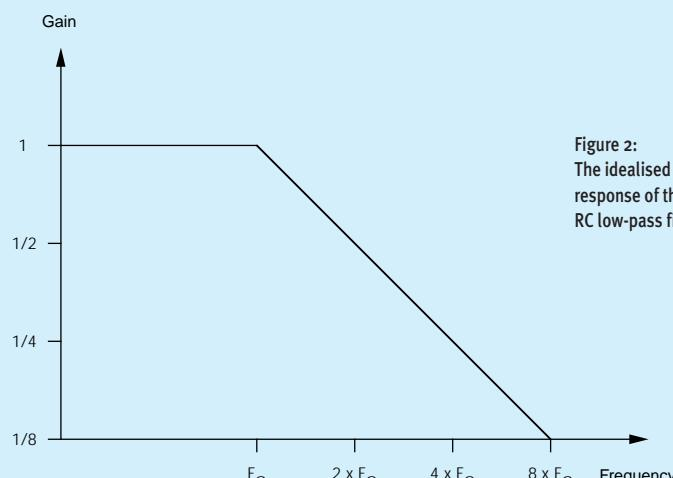
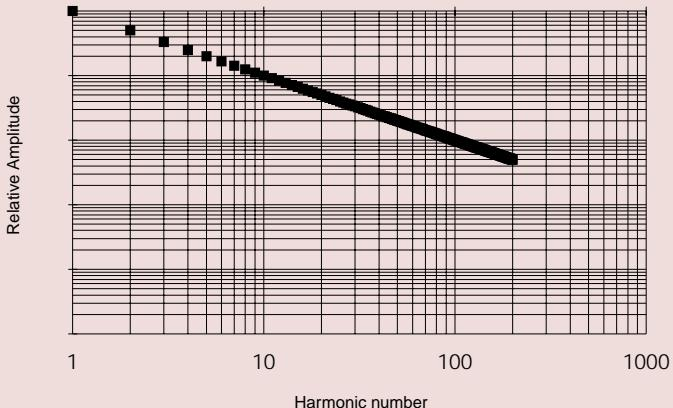

Figure 2:
Figure 5:
the cutoff frequency (which I will call F_c), the gain at the output is halved (see Figure 2, left).
Unfortunately (and despite its ubiquitous use within the music industry) Figure 2 is actually *wrong*. Figure 3 shows a more accurate representation of the transfer function. As you can see, the signal amplitude is already down by 3dB at the cutoff frequency. This is not a fault. In fact, in electrical engineering, the position of this 3dB cut *defines* the cutoff frequency. So, let's state this month's first Synth Secret:
Now, let's back-track a little and consider what a simple low-pass filter does to a common waveform. To simplify matters, we'll use the idealised low-pass filter response seen in Figure 2, because its sharp 'knee' makes it easier to recognise what's happening. Figure 4 shows the harmonic structure of the most common analogue synthesizer waveform of all: the sawtooth. All the harmonics are present in this signal, and their
► amplitudes relative to the fundamental are defined by the simple relationship $1/(\text{harmonic number})$. Drawn on conventional graph axes, the amplitudes of the first 200 harmonics look like the graph shown in Figure 4 (see page 101). However, Figure 4 is far from the best way to represent these harmonics. Much better is the graph with logarithmic axes shown in figure 5 (right). This looks quite different, but it represents exactly the same information, so don't worry if you don't know what a logarithmic scale is. Furthermore, it should be obvious why I have chosen to change the axes of the graph in this way, even if you *don't* know what a logarithmic scale is: unlike in Figure 4, the amplitude relationship is now a straight line, and this makes it easy to see the filters' effects in the following graphs. Indeed, if you now look back at Figures 2 and 3 and study the axes, you will see that these graphs also have logarithmic axes.